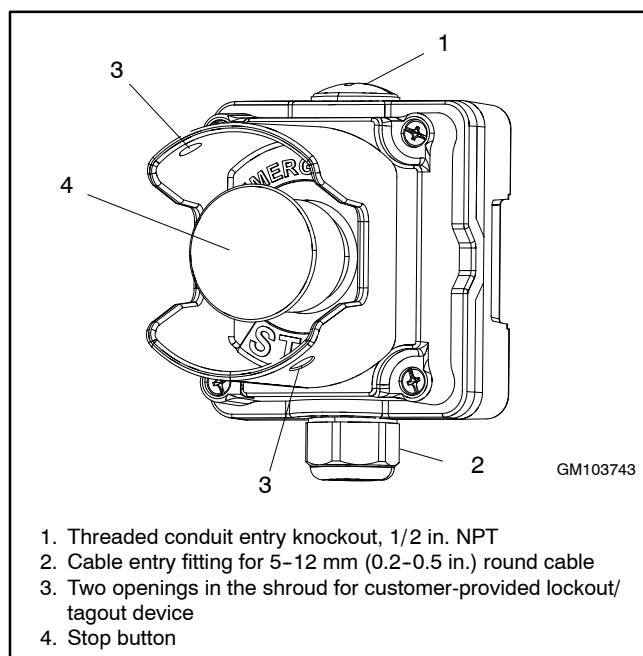

Figure 1 Emergency Stop Switch GM103743-1
The emergency stop (E-stop) kit allows immediate shutdown of the generator set from a remote location. The E-stop assembly includes a shroud that allows the installation of a lockout/tagout device to lock the switch in the stop position. See Figure 1. Mount the emergency stop switch(es) in accordance with NEC requirements. For generator sets rated 15 kW or higher, the emergency stop kit must be mounted outside of the generator set enclosure.
- 2.2.1 If the switch will be mounted outdoors, position the box with the cable entry fitting pointed down. See Figure 1.
- 3.2 Route the switch leads through either the cable entry fitting or the threaded conduit entry knockout provided on the E-stop assembly, as required for the application. See Figure 1.
The emergency stop button can be locked in the STOP position. Insert a lock through two openings in the yellow shroud to prevent the stop button from being pulled out. See Figure 1. Remove the lock for normal operation.